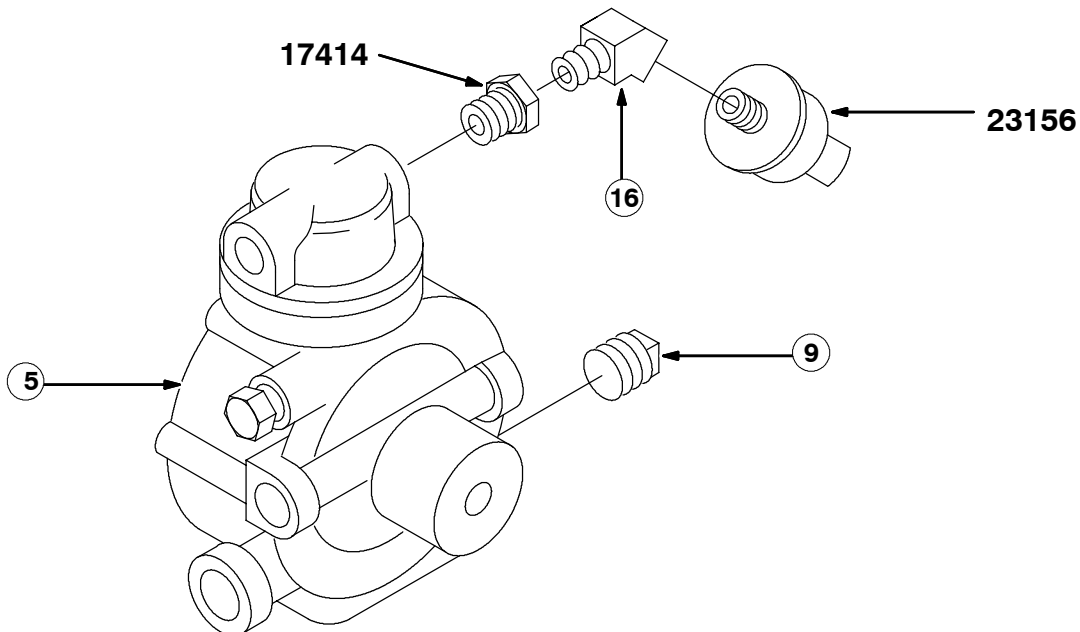

FIG. 5 - INSTALLATION, PRESSURE SWITCH
3. Mount the pressure switch (23156) to the regulator/lockoff (5) with 45° fitting (16) and straight fitting (17414). (Refer to FIG. 5 and 10)
4. Mount the pipe plug (9) in the regulator/lockoff (5). (Refer to FIG. 5 and 10)
22. Mount the new vaporizer/lockoff mounting bracket (1) to the prop rod support panel with two hex screws (2), washers (3) and two flange nuts (4). (Refer to FIG. 5)